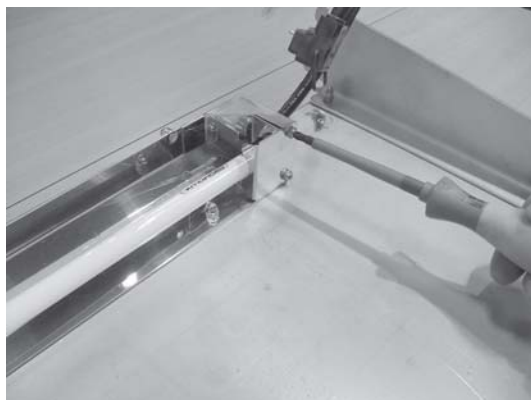

Figure 2
3. Remove the screws securing the fluorescent bulb guards on both ends of the bulb, and remove guards. Figure 2.